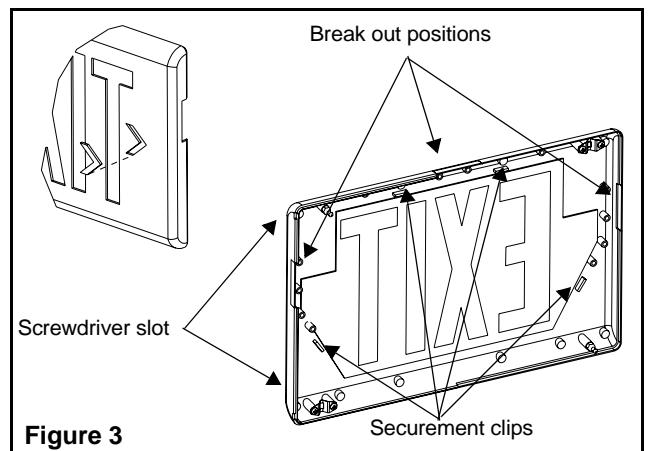

Figure 3
- d. To knock out the chevrons, remove the diffuser panel. Support the door around the chevrons with two blocks of wood. Strike arrow knockouts from the inside with a hammer and screwdriver. Re-install the diffuser panel using the securement clips (see fig. 3).
- e. Determine which side of the exit frame will be used for mounting. Break out the appropriate rectangular section at the canopy mounting position (see fig. 3). Make sure edges are free from burrs.